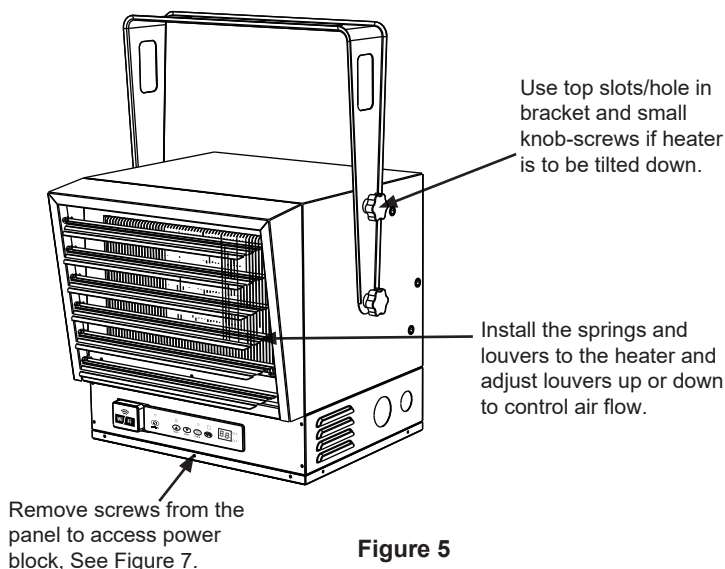

Figure 5
3. Aim the heater horizontally or tilted by aligning the upper bracket holes with the top threaded holes on the heater and secure with the small knob-screws and tighten all. See Figure 5.
2. Tilt the unit- Loosen the top Small Knob-Screws and thread into provided holes in heater until tight. See Figure 5.
3. Adjust the louvers in front of the heater as desired. See Figure 5.